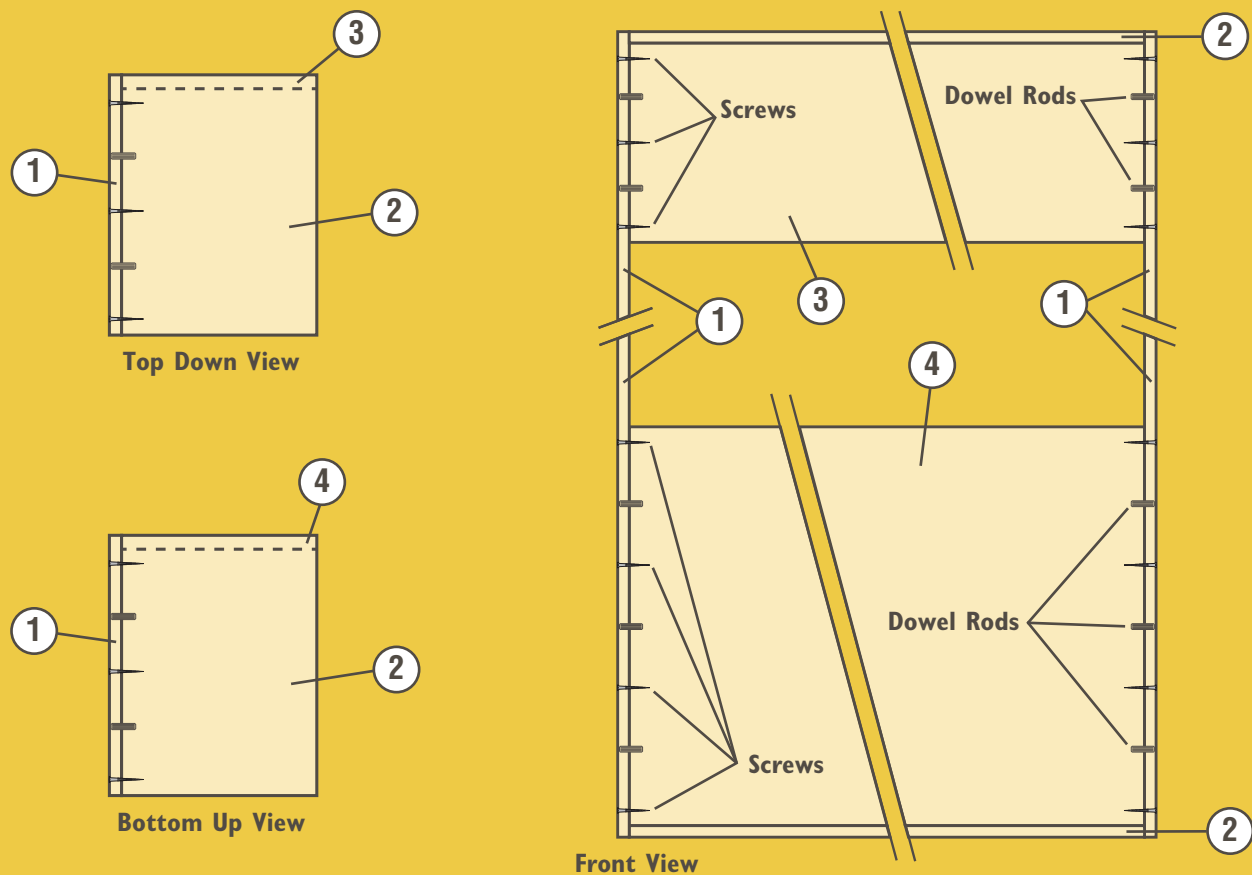

Fig. 3
5. Assemble the Top (2) with the Upper Headboard (3) and the Bottom (2) with the Lower Headboard (4). Spread glue on the edges of the headboards that join with the Top and Bottom, as well as in the dowel holes. Bring the pieces together, make sure the joint is square and secure by driving #8 x 2" screws (not included) in the pilot holes. Wipe away any excess glue with a damp cloth.
6. To be able to mark screw and dowel drilling locations, position the two assemblies so that the front edge of the Top (2) and Bottom (2) are resting on the floor. (You will need to prop up the Upper and Lower Headboard [3 and 4] to keep them up.)
7. Position the right cabinet Side (1) so that its top edge is flush with the Top (2) and its bottom edge is flush with the Bottom (2). **Fig. 3.**
8. Clamp in place and mark locations for two joint-reinforcing dowels across the top edge of the right Side (1) and top face of the Top (2). Mark drilling locations for three screws on the outside face of the right Side (into the Top). Also mark locations for two dowels across the back edge of the right Side (1) and the back face of the Upper Headboard (3), as well as three screws on the outside face of the right Side (into the Upper Headboard). **Fig. 3.**
9. Move to the bottom of the right Side (1) and mark locations for two dowels across the bottom edge of the right Side and bottom face of the Bottom (2). Mark drilling locations for three screws on the outside face of the right Side (into the Bottom). Also mark locations for three dowels across the back edge of the right Side (1) and the back face of the Lower Headboard (4), as well as four screws on the outside face of the right Side (into the Lower Headboard).
11. Repeat Steps 12-15 for the left Side (1).
12. Release the clamps to separate the parts. Use a doweling jig and 3/8" drill bit to bore 3/8" x 5/8" deep holes on the inside faces of the Sides (1) and 3/8" x 1" deep holes in the edges of the cabinet Top (2), Bottom (2), Upper Headboard (3) and Lower Headboard (4). You will join these pieces with 3/8" x 1 1/2" dowels and wood glue (not included).
13. Attach the Sides (1) to the Top and Bottom assemblies with dowels, wood glue and screws driven fully to secure all pieces together. Check to make sure corners are square as you go. Screw holes can be concealed with wood filler in painted applications or with screw plugs or buttons in stained or clear-coated projects.